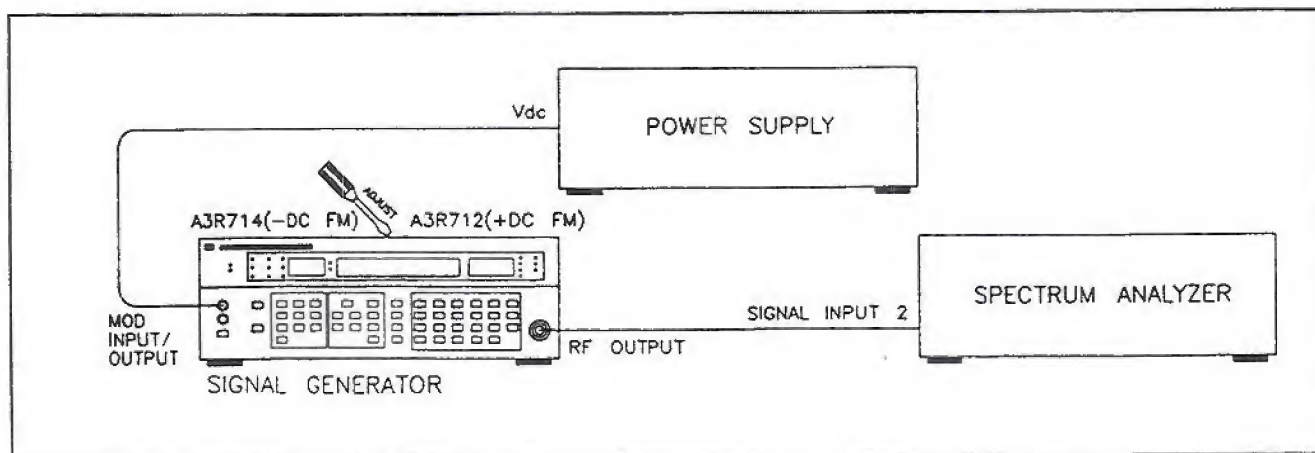

Figure 5-32. DC FM Spurious Signal Adjustment Setup
4. Connect the Signal Generator RF OUTPUT to the spectrum analyzer SIGNAL INPUT 2 and the MOD INPUT/OUTPUT to the power supply +1 Vdc as shown in Figure 5-32.